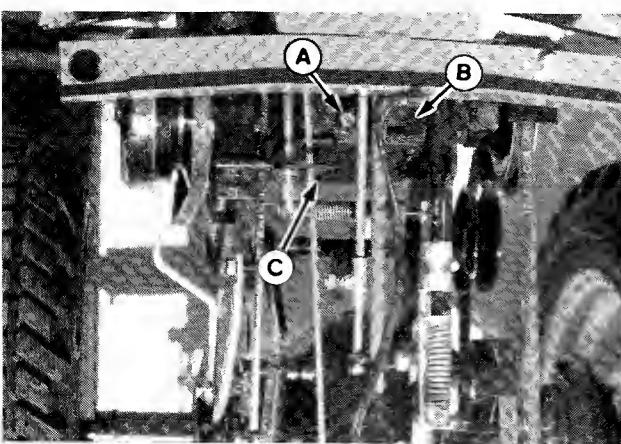

FIGURE 7 - Bevel Gear Box
Check the bevel gearbox fluid level. Remove the fill plug (A, Figure 7) and wipe oil off attached pin. Insert the fill plug loosely in hole (do not screw in). In this position the fluid should just touch the bottom of the pin. If not, add Allis-chalmers Power Fluid 821. Do not overfill. A drain plug (C) is located on rear cover.